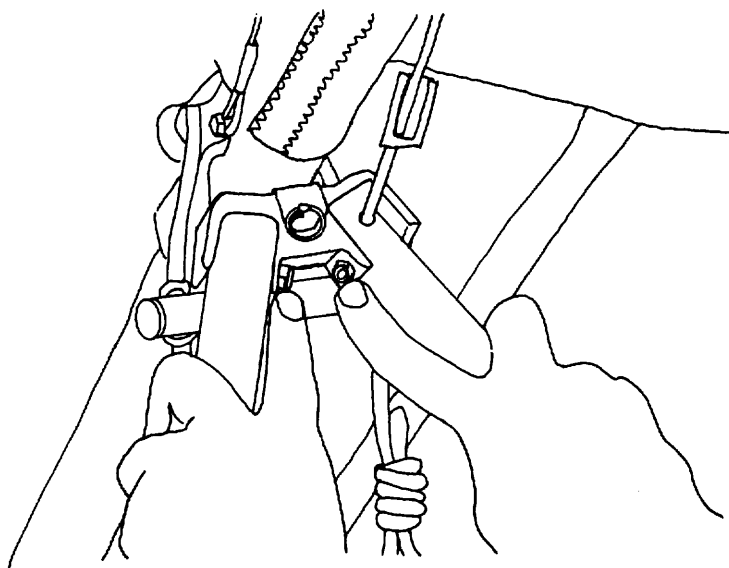

Fig 37
21) Continue the preflight at the control bar apex. Check that the nuts which secure the control bar top bolts are secure. (Fig 37)